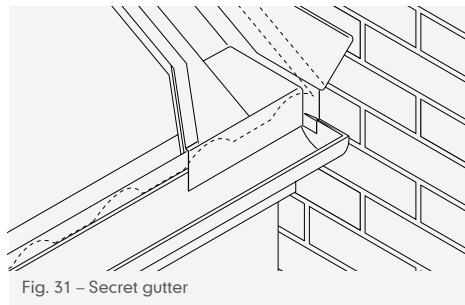

Fig. 31 – Secret gutter
- 3 Fix a splayed timber fillet at discharge point to raise lead lining to the right height. Avoid backward falls (Fig. 31).